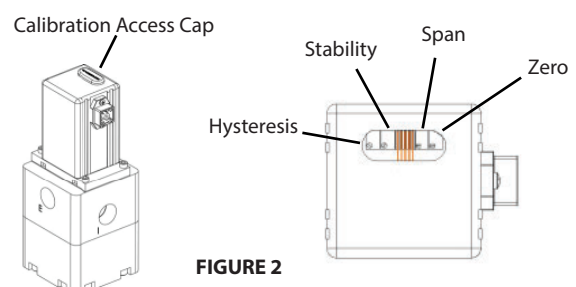

FIGURE 2
4. On the printed circuit board, locate the two adjustment potentiometers SPAN and ZERO. (See figure 2)